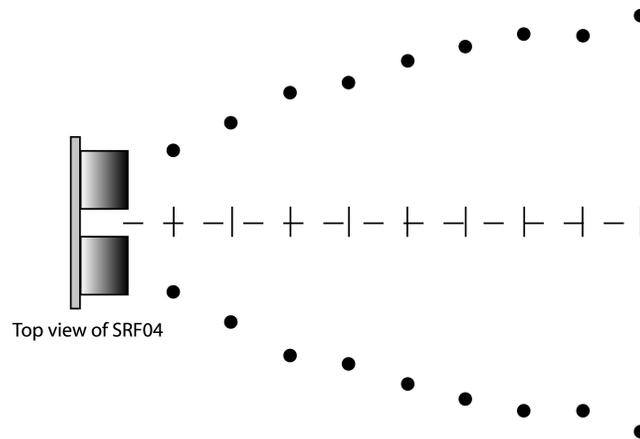

Figure 3. Measuring the cone angle of the SRF04.
- Using a small object, such as an empty soda can or floppy disk, determine the cone angle, as shown in Figure 3. At several distances from the sonar module, move a small object horizontal to the sonar. Make note of when it first leaves the detection cone. Do the same thing on the other side of the longitudinal axis. Collect data at several distances from the sonar unit so that you can make a plot representing the cone angle for your report. Inserting trend lines through the data can approximate the cone, and then the angle can be measured with a protractor. Compare your data with that supplied by Acroname (see the web links described earlier).